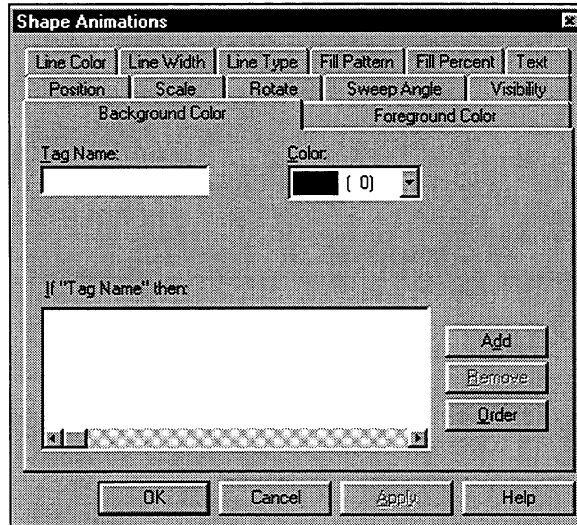

Figure 7-1. Background Color Animation Page
3. Choose the Background Color, Foreground Color, or Line Color tab, depending on which you want to animate. The corresponding page will display. For example, if you choose the Background Color tab, the Background Color animations page will display, as shown in Figure 7-1.